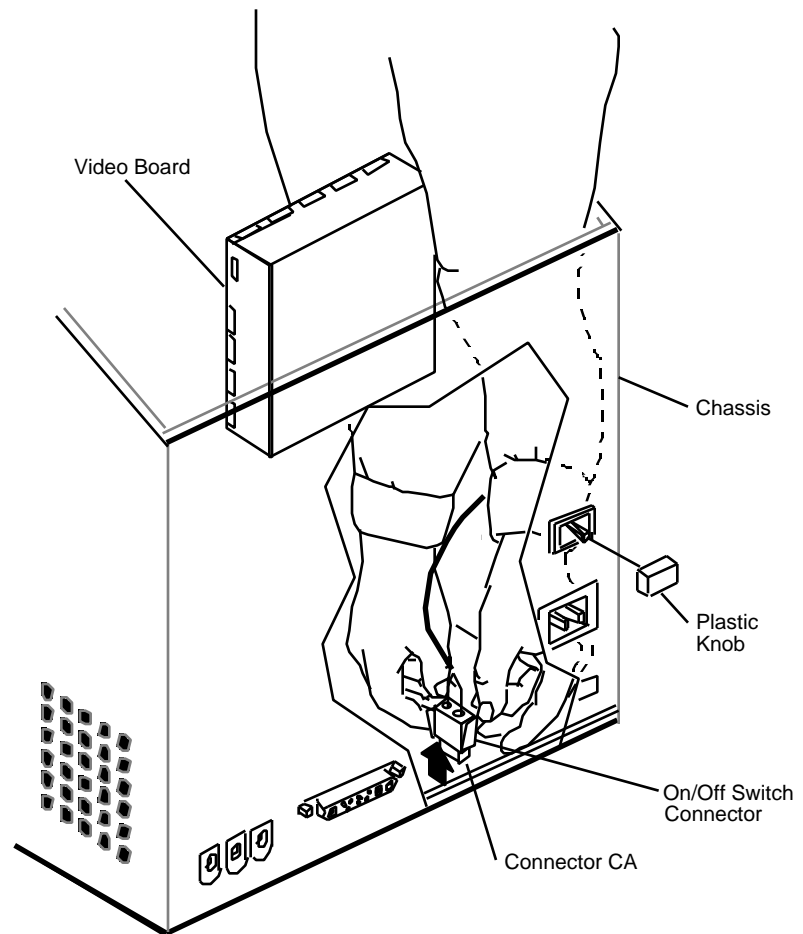

FIGURE 14
3. Pull the plastic knob off the on/off switch (**Figure 14**).
4. Disconnect the 2-wire, on/off switch connector (**Figure 14**) from the connector labelled **CA** on the main deflection board. (Suggestion: To remove the on/off switch connector, insert your right hand around and beneath the video board as shown in **Figure 14**, and insert your left hand between the video board and the rear of the chassis. Be sure to release the tabs on the sides of the connector.)